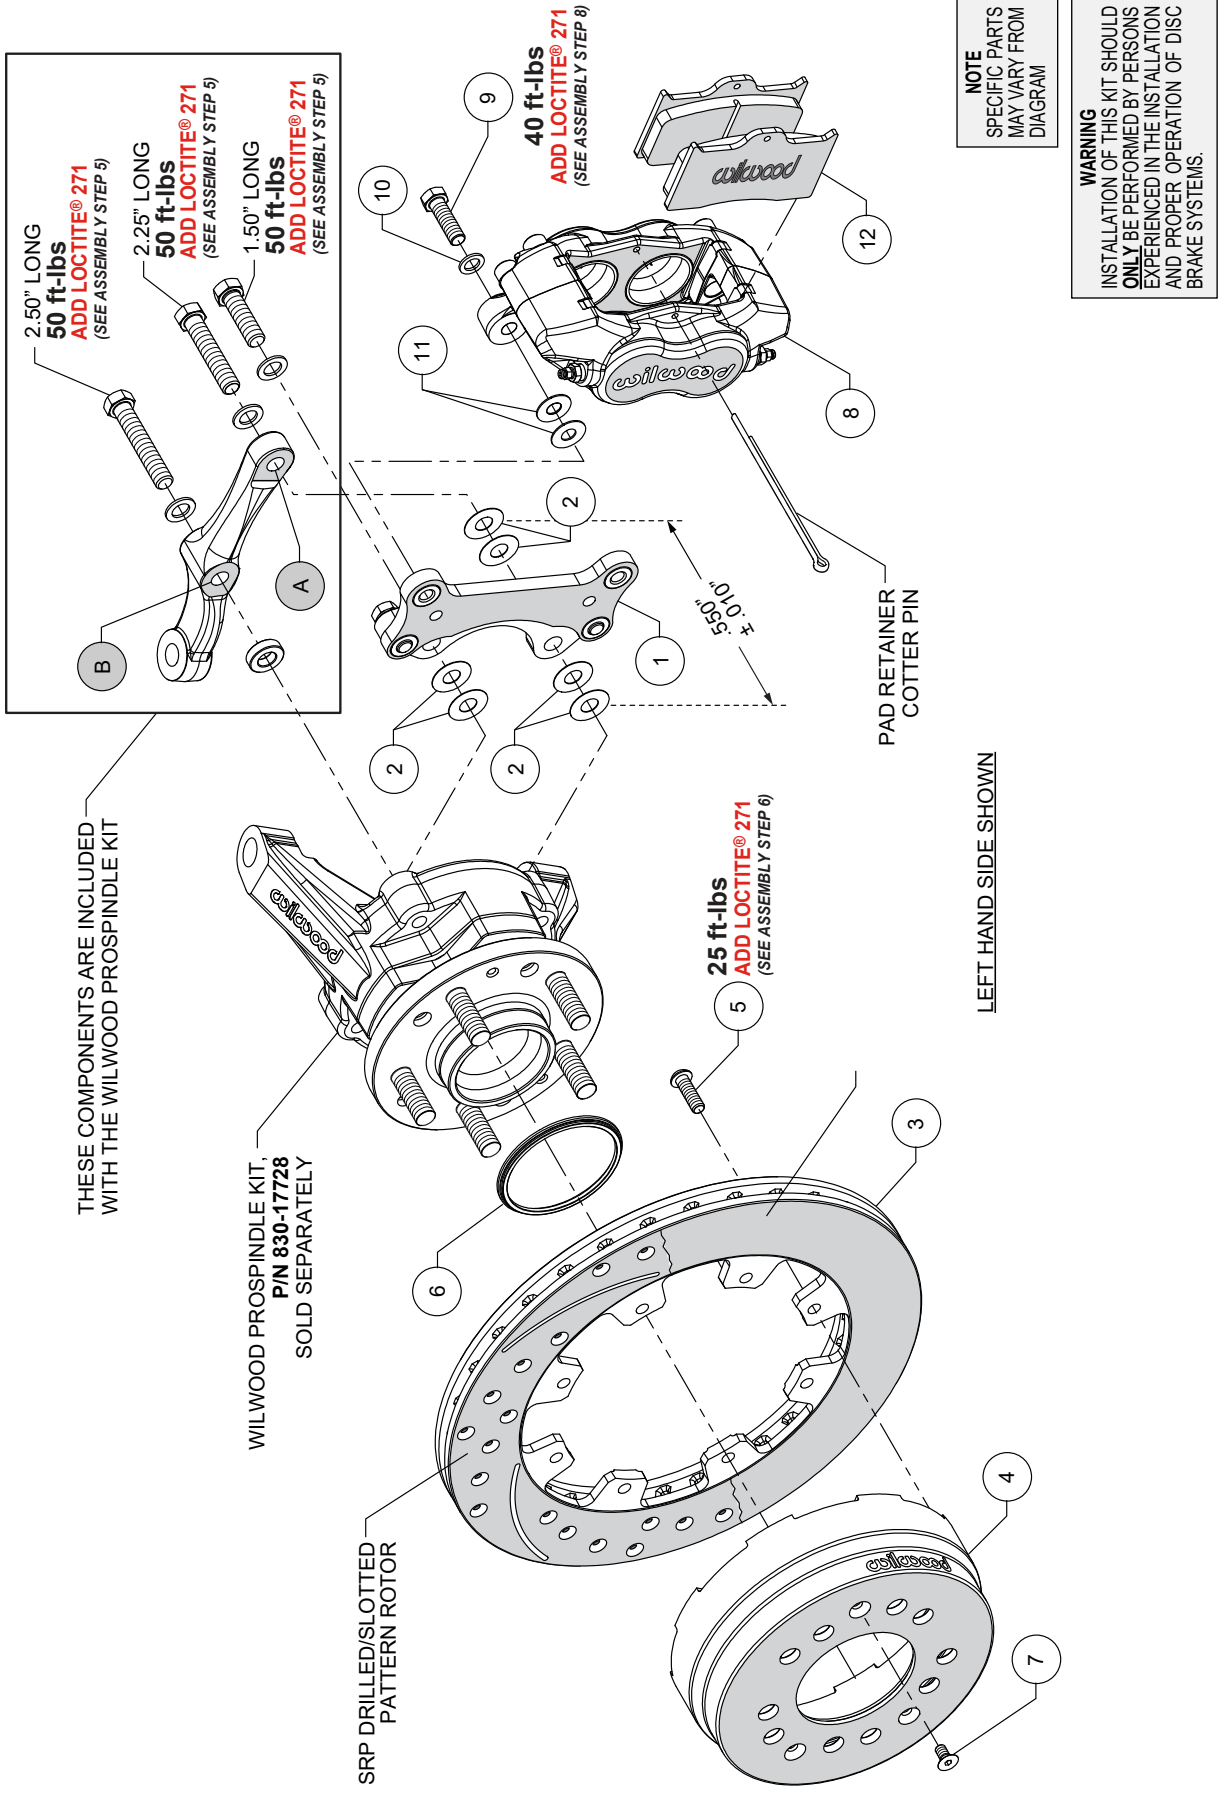
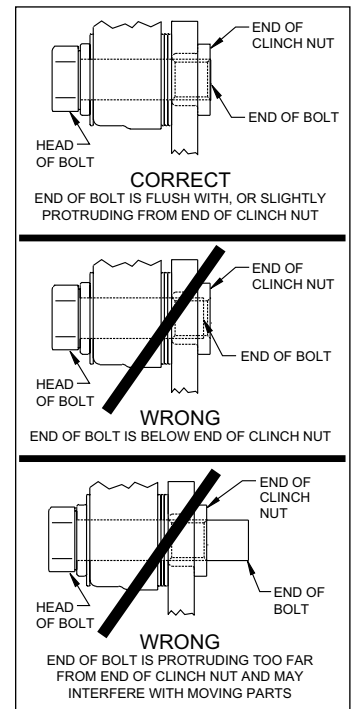

Figure 1. Typical Installation Configuration
Figure 3. Clinch Nut Engagement Diagram
- NOTE:** This brake kit fits Wilwood's 2" drop ProSpindle (P/N 830-17728). Some hardware shown in Figure 1 is included with the ProSpindle kit (sold separately).
**NOTE:** Numbers in parenthesis refer to the parts list and Figure 1 on the preceding pages.
**CAUTION:** All mounting bolts must fully engage clinch nuts. Be sure to check that all bolts are either flush or protruding through flanged side of clinch nut after shimming, Figure 3.
**NOTE:** Each Wilwood ProSpindle kit (sold separately) includes bolts, washers, and a spacer to mount the steering arm and caliper bracket. The various bolts are identified by length in the following instructions and in Figure 1.
**STEP 1** The caliper bracket (1) should initially be installed with clean, dry threads on the mounting bolts. Orient the bracket as shown in Figure 1 and Photo 1.
**STEP 2** Install the bracket (1) at top spindle hole using 1.50" long bolt and .063" thick washer (from ProSpindle kit), and two .016" thick shims (2) between the bracket and spindle, Figure 1 and Photo 2.
**STEP 3** Orient the steering arm, and identify the hole marked 'A', as shown in Figure 1 and Photo 2. Install at bottom spindle hole using 2.25" long bolt and .063" thick washer (from ProSpindle kit), two .016" thick shims (2) between the bracket and steering arm, and another two .016" thick shims (2) between the bracket and spindle,
Figure 1 and Photo 2. The bracket is located between the steering arm and spindle. **NOTE:** The bracket and shim washers must add up to a total thickness of  $.550" \pm .010"$ .
**STEP 4** Finish attaching the steering arm through the hole marked 'B', as shown in Figure 1 and Photo 2. Install using 2.50" long bolt, .063" thick washer, and .250" thick spacer (all from ProSpindle kit), Figure 1 and Photo 2.
**STEP 5** Temporarily tighten all mounting bolts. **NOTE:** The bracket and steering arm must fit squarely against the mounting points on the spindle. Inspect for interference from casting irregularities, machining ridges, burrs, etc. Remove bolts one at a time, apply red Loctite® 271 to bolt threads, and torque to value shown in Figure 1.
**STEP 6** Orient the rotor (3) and the hat (4) as shown in Figure 1, and Photo 3. Attach rotor to hat using bolts (5). Apply red Loctite® 271 to the bolt threads and torque to value shown in Figure 1 using a criss-cross pattern.
**STEP 7** Install the rotor registration adapter (6) onto the register of the hub assembly with the smaller O.D. facing outward, Photo 4. Slide the rotor/hat assembly (3/4) onto the hub, taking care to align the small countersunk holes in the hat with the small threaded holes in the hub, Figure 1. **NOTE:** The hat must fit flush against the hub face or excessive rotor run out may result. Install rotor locator screws (7) to keep the rotor/hat assembly in place while continuing with the installation, Photo 5.
**STEP 8** **NOTE:** Please reference the caution statement at the beginning of the assembly instructions. Mount the caliper (8) onto the caliper mounting bracket (1) using bolts (9) and washers (10), as shown in Figure 1. Initially place two .035" thick shims (11) on each bolt between the caliper and the bracket, Photo 6. Temporarily tighten the mounting bolts and view the rotor (3) through the top opening of the caliper. The rotor should be centered in the caliper, Photo 7. If not, adjust by adding or subtracting shims (11) between the bracket and the caliper. Always use the same amount of shims on each of the two mounting bolts. **NOTE:** The end of each bolt must be flush with or slightly protruding from the head of the clinch nut, as shown in Figure 3. If necessary place spare shims between washer (10) and caliper mounting ear to achieve the proper clinch nut engagement. Once the caliper alignment and clinch nut engagement are correct, remove the bolts one at a time, apply red Loctite® 271 to bolt threads, and torque to value shown in Figure 1.
**STEP 9** Remove the caliper pad retainer cotter pin from the caliper. Insert the brake pads (12) into the caliper, with the friction material facing the rotor, Photo 8, and secure in place using the pad retainer cotter pin as shown in Photo 9.